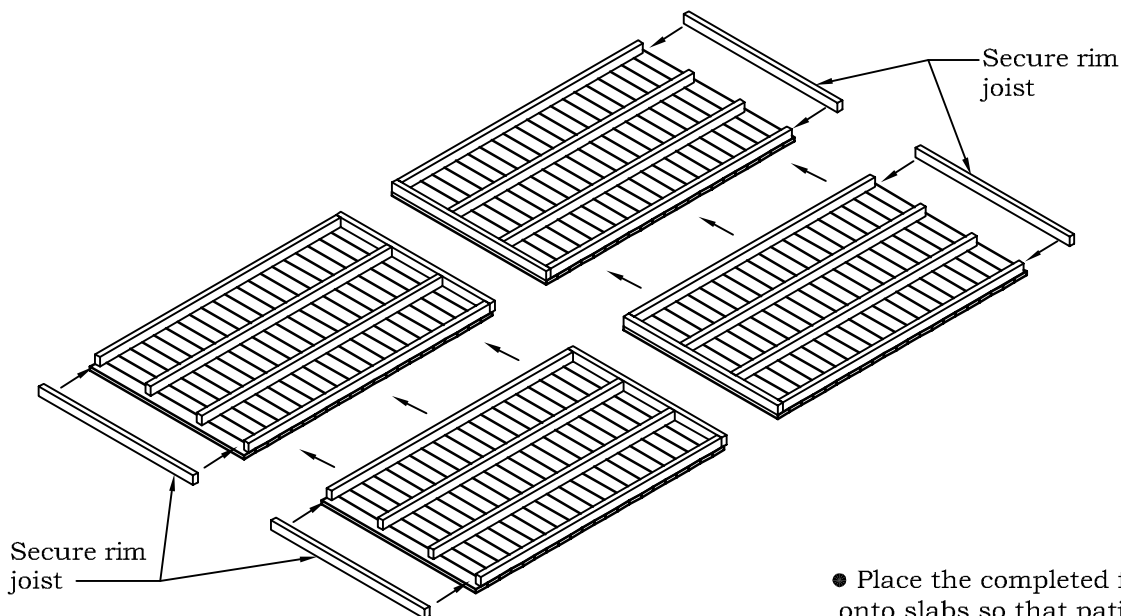

FIGURE S2
- Unpack the floor sections and place them on leveled ground with decking facing down as shown in Figure S2.
- Prior to fastening floor panels together; secure all 4 rim joists to the floor panels as indicated below in Figure S2.
- Push the floor panels together as shown in Figure S2. Have a look at the next page for